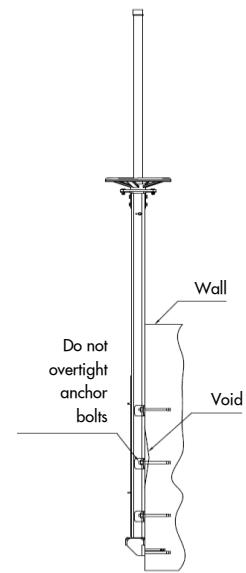

Figure 14
**CAUTION!** If the channel gate is not completely in contact with the wall, do not over-tighten the anchor bolts. Over tightening may bend or distort the frame. If the wall flatness and levelness is according to the specified standards, the construction sealant will fill in the remaining void (see Figure 14)